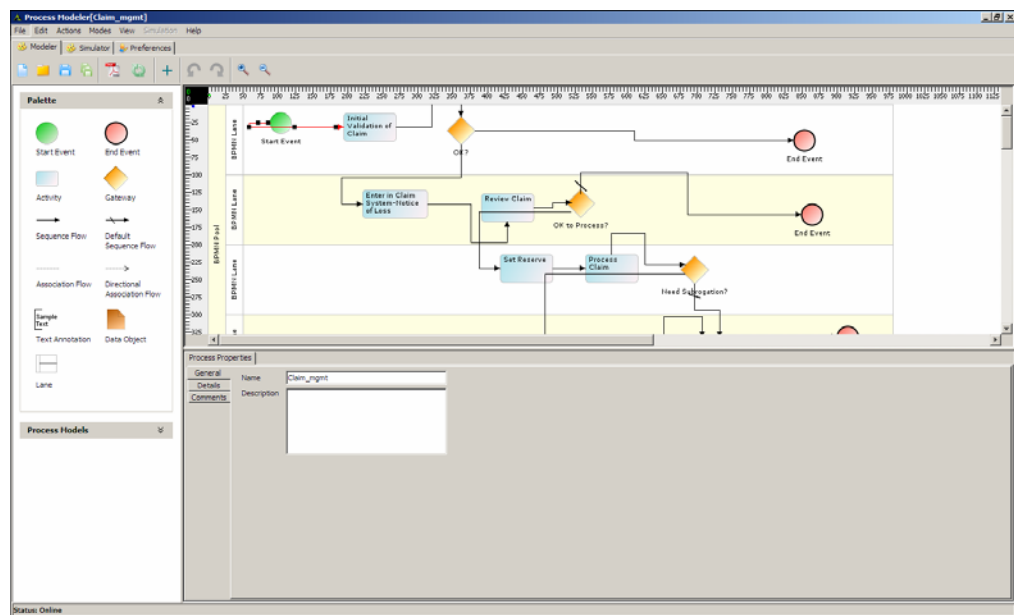

Figure 10.2: Process Modeler
4. Click **Process Modeler** button. The Process Modeler window is displayed (see Figure 10.2).